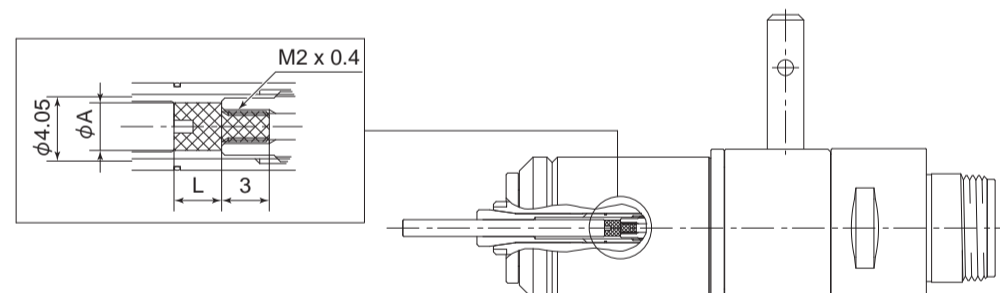

Fig. 5
Please make the stopper by your own to adjust " Tool Mounting Depth ". Utilize the screw M2 x 0.4 l 3 in the spindle in consideration for " Dimension ϕA " to fit for tool shank diameter and the required adjust length (L) refer to Fig 5.